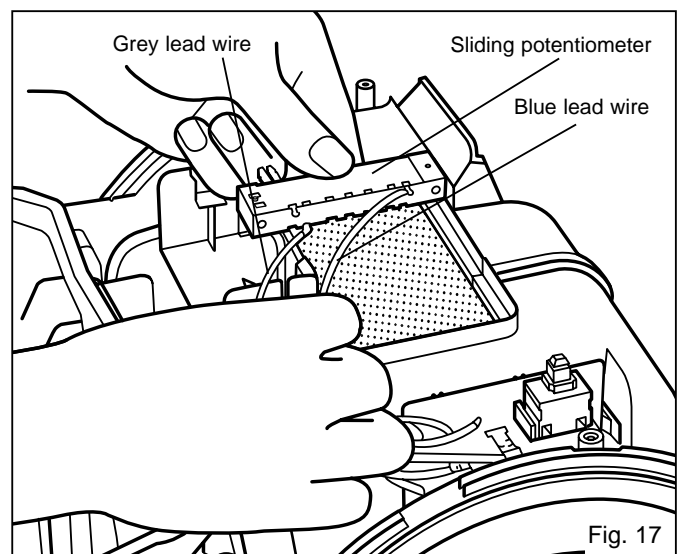

Fig. 17
1. Remove upper body as explained previously in paragraph (1) "Motor", points 1-3.
2. Take out the sliding potentiometer from its support and remove lead wires (blue and grey) from the potentiometer tabs. (Fig. 17)